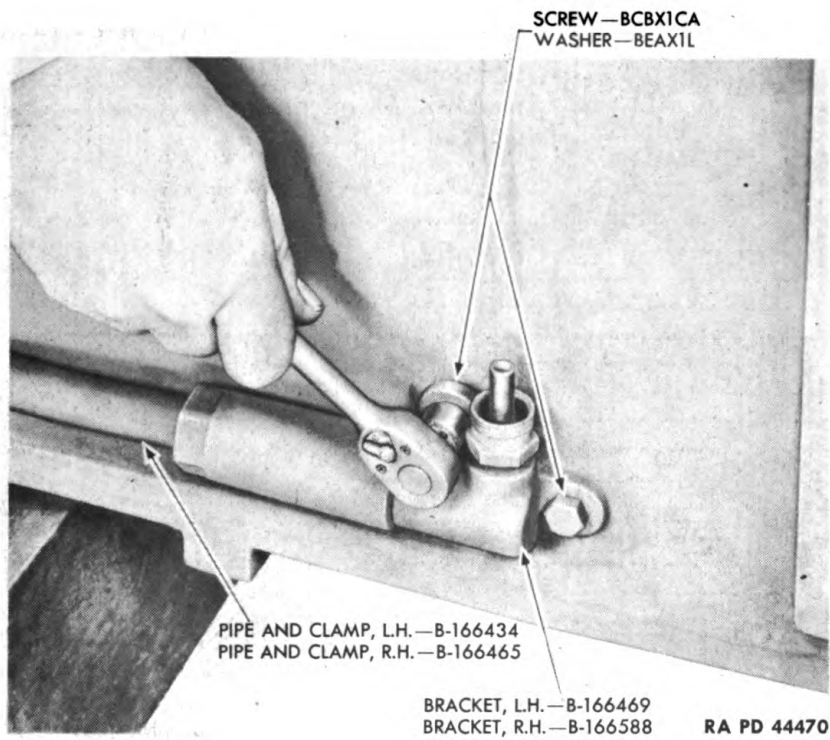

Figure 235—Removing Front Bracket from Trail
(2) Remove two screws BCBX1CA and washers BEAX1L from bracket B166469 (fig. 235).
c. Coat threads of two air line front bracket screws with **COMPOUND**, rust-preventive, light. Secure front bracket to trail with two screws and washers (fig. 235).